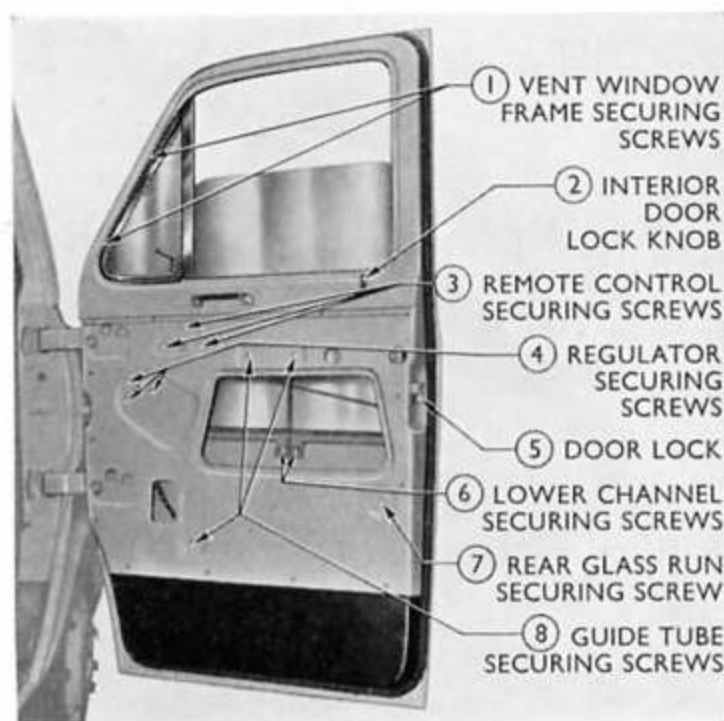

Fig. 5
2. Remove three crosshead screws, spring and cup washers securing the remote control mechanism to the door inner panel (see Fig. 5).
4. Unscrew the door lock interior control knob (see Fig. 5). (Early models only.)
6. Unscrew and remove the three crosshead screws and shakeproof washers securing the lock mechanism to the door and disconnect the two wire control rods from the lock mechanism (see Fig. 5).
3. Open the vent window fully and remove the two self-tapping screws, securing the vent window outer frame to the door frame (see Fig. 5).
5. Support the window glass and remove the two crosshead screws, spring and flat washers securing the door glass lower channel to the window regulator connecting plate (see Fig. 5).
4. Lower the window to the bottom of the door and remove the three crosshead screws, spring and flat washers securing the remote control mechanism to the door inner panel (see Fig. 5).
- Remove the three crosshead screws, spring and flat washers securing the flexible drive guide tube assembly to the door inner panel (see Fig. 5).